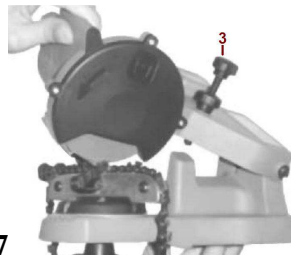

Fig.7
4.6.3- Setting the grinding depth (Fig.7)